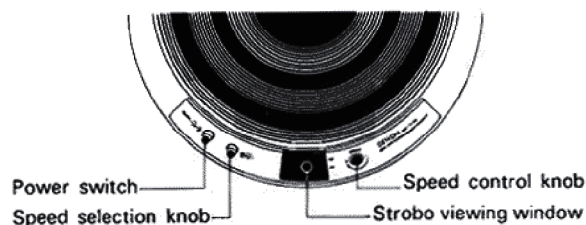

Fig. 18 Control panel
3. Speed adjustment (Fig. 18)
The speed control knob controls both 33 and 45 tuning. Adjust the speed with this knob to bring the upper strobo pattern still for 45 rpm and lower pattern for 33-1/3 rpm. (Fig. 18)